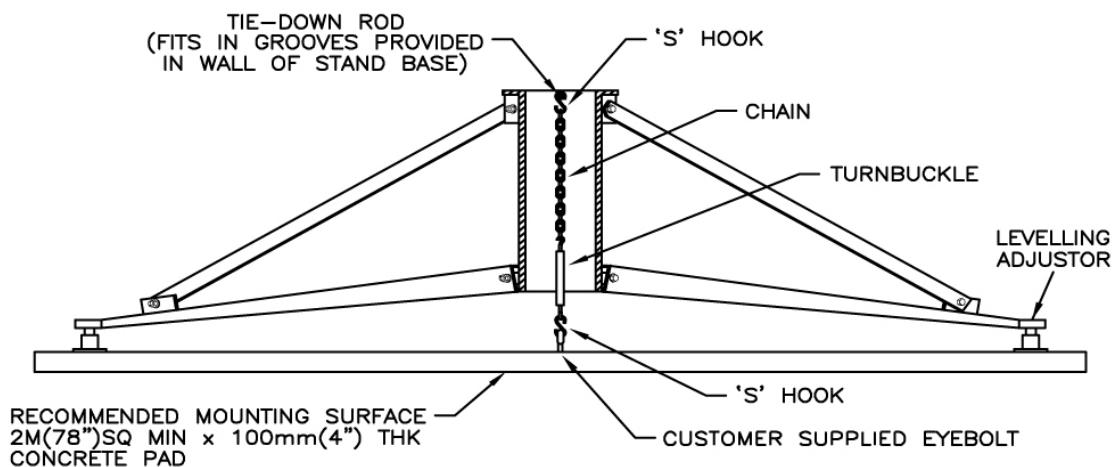

Figure 3.6: Securing the Tripod
6. Use the Tripod “tie-down kit” to secure the tripod against movement due to accidental bumping or high winds. See Figure 3.6.